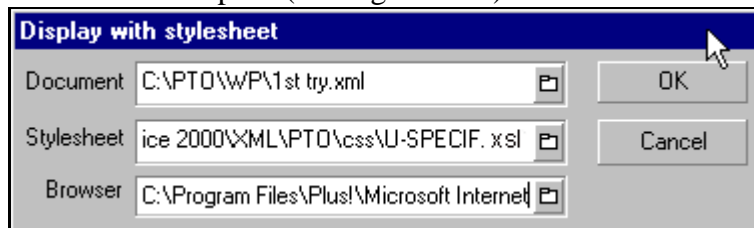

Figure 5-11 Viewing Specification as an XML File
9. From the **Assistant** menu select the **View XML with Style Sheet** option. The **Display with stylesheet** window opens (see Figure 5-11).